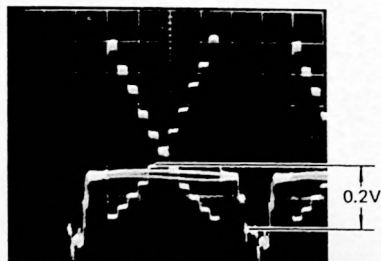

Fig. 4-4-22
- Adjust INPUT GAIN VR220 so that the voltage between the OB level and the fourth step (one step below the crossing step) of the gray scale waveform is 0.2V. (Fig. 4-4-22)